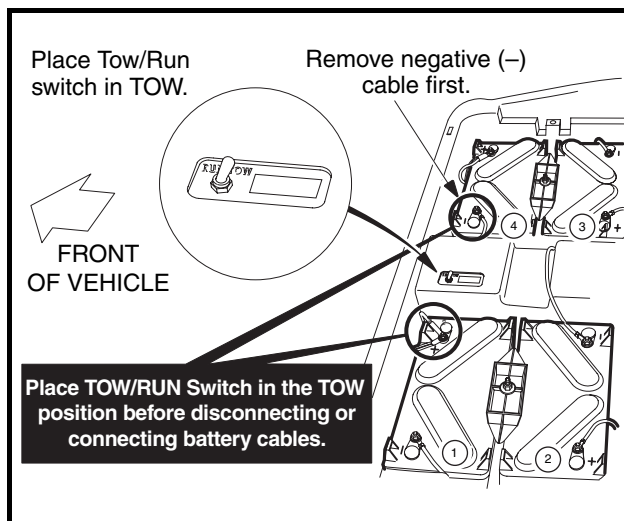

Figure 1 Battery Cable Removal – Electric
- To avoid unintentionally starting the vehicle, disconnect the batteries as shown (Figure 1, Page 11).